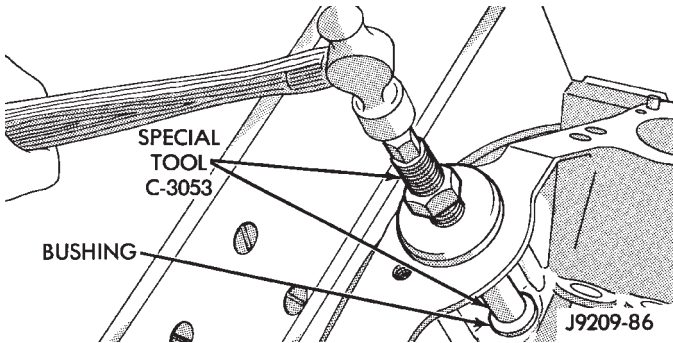

Fig. 34 Distributor Driveshaft Bushing Installation
(2) Drive bushing and tool into position, using a hammer (Fig. 34).